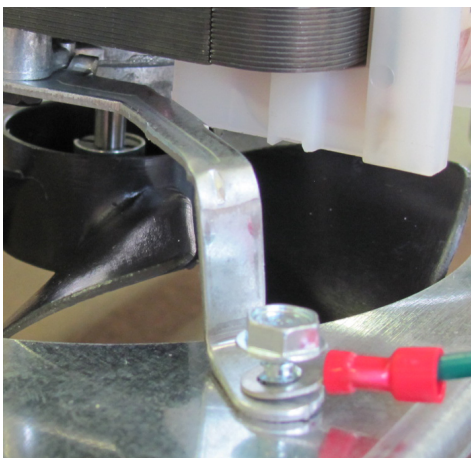

Figure: 5
- Secure Ground ring terminal between screw and mounting bracket. (Figure: 5)